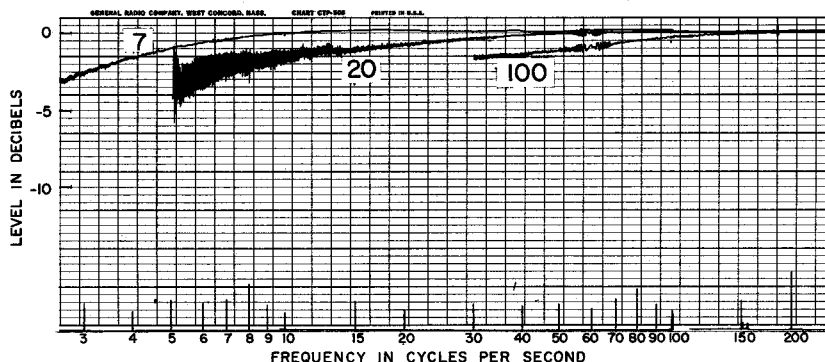
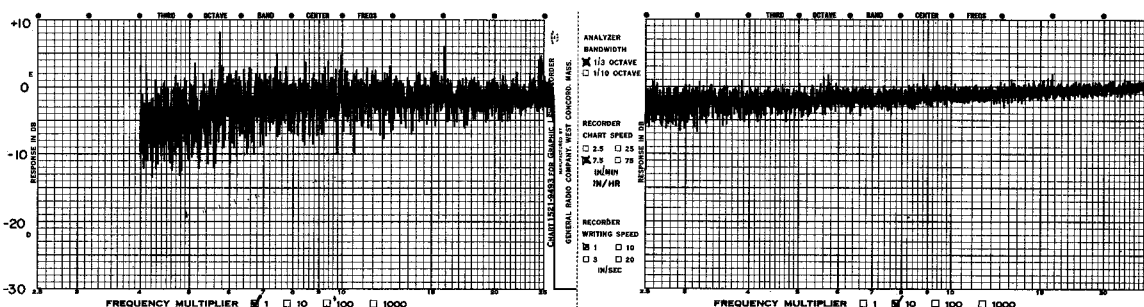

Figure 3.1. Frequency-response plot of the recorder for various positions of the low-frequency cutoff switch.
Figure 3.2. Low-frequency response to a 1/3-octave band of pink noise, with a writing speed of 1 inch/second.
**3.2.5 LOW-FREQUENCY CUTOFF.** The WRITING SPEED switch also changes the low-frequency cutoff. This information is engraved on the front panel. The engraved frequency corresponds to the point where the response is less than 1 db down. Figure 3.1 shows the frequency-response plot of the recorder for various positions of the low-frequency cutoff switch. Figure 3.2 shows the low-frequency response to a 1/3-octave